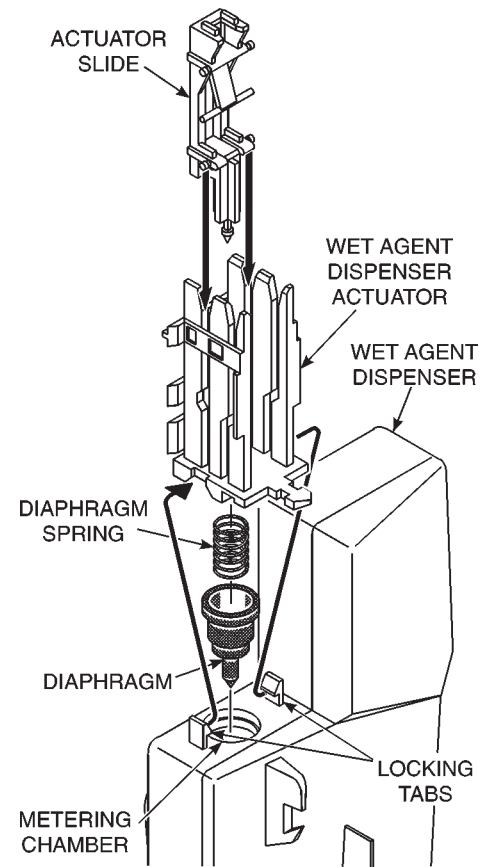

Fig. 3-13
6. Remove wet agent dispenser actuator by spreading the two (2) locking tabs. (Fig. 3-13)
4. Insert the diaphragm and diaphragm spring into the wet agent dispenser. Seat the diaphragm flush with the surface of the dispenser. (Fig. 3-13)